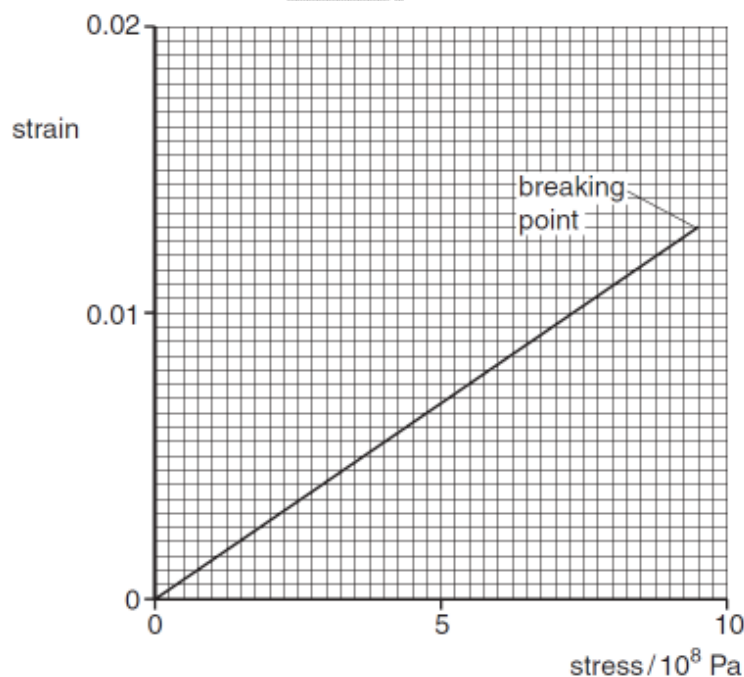

Fig. 4.1
- 4 A sample of material in the form of a cylindrical rod has length L and uniform area of cross-section A . The rod undergoes an increasing tensile stress until it breaks. Fig. 4.1 shows the variation with stress of the strain in the rod.
By reference to Fig. 4.1, calculate the maximum area of cross-section of the bubble such that the rod does not break.